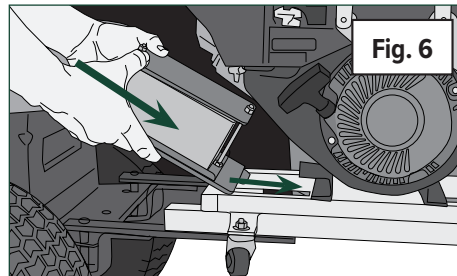

Fig. 6
2. **(Fig. 6)** Install the battery pack by **sliding it down and under** in the direction shown.
1. **(Fig. 6)** Install the inlet collar marked “**BLOWER**” by inserting it into one end of the mower deck hose and secure with the bridge-type band clamp provided.